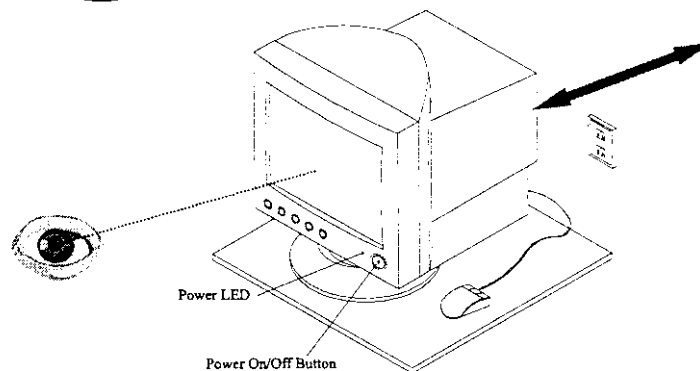

Figure 2: The Workstation
- Make sure that the monitor is powered *Off*. When powered off the Power LED (see *Figure 2*) will not be lit.